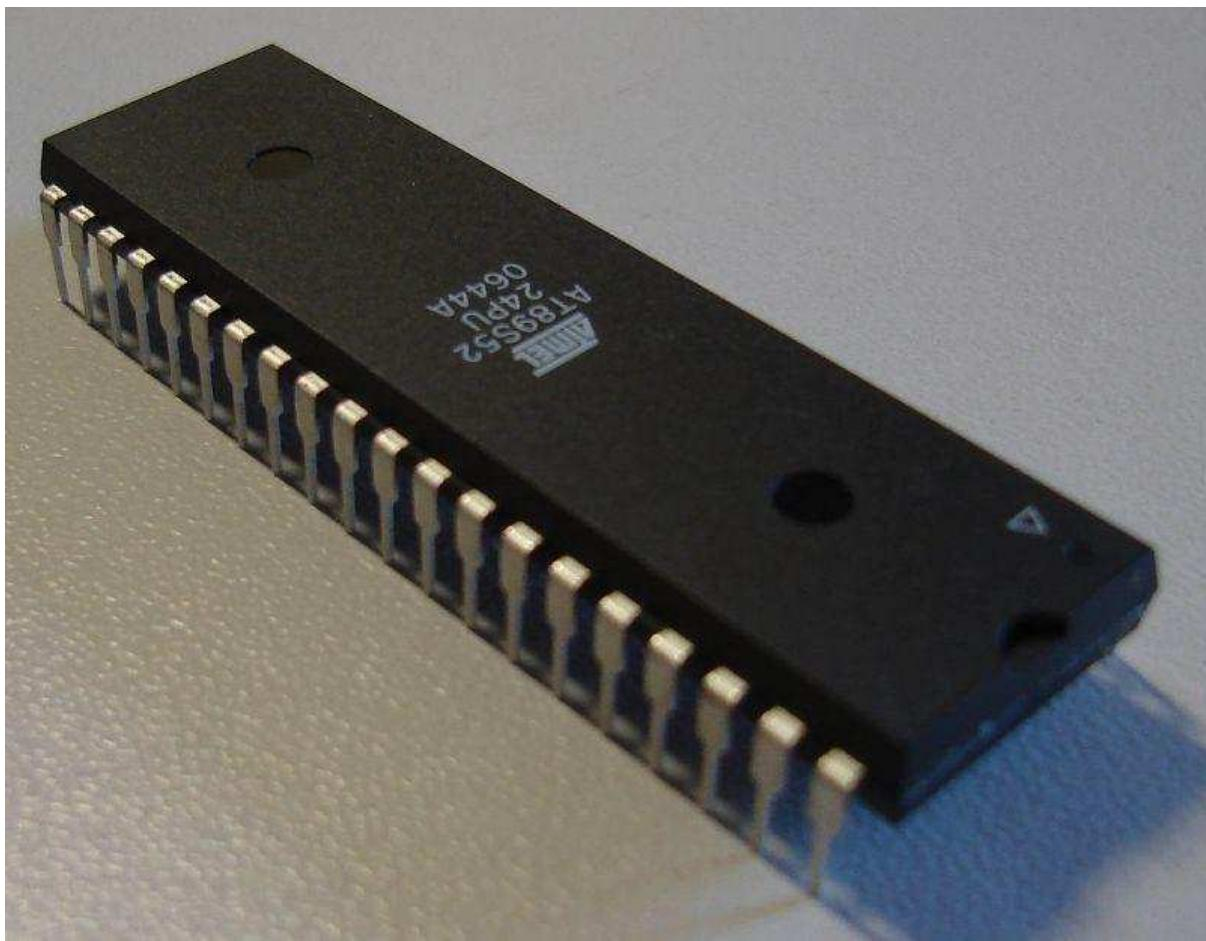

Fig.1
2. Microcontroller (ATmega 16/32)(Figure 1)